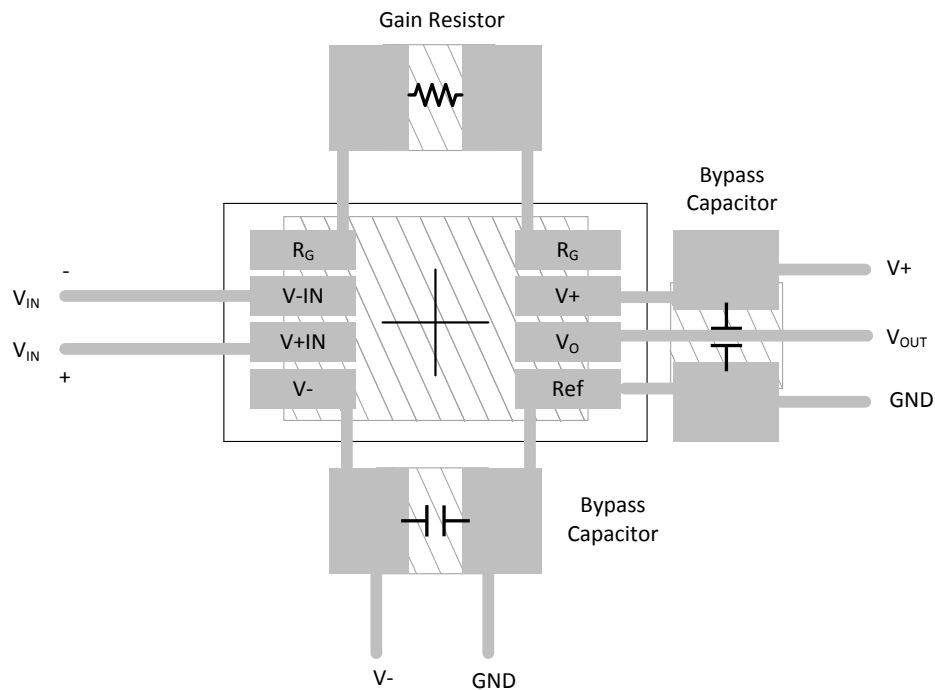

Figure 26. Layout for All Single INA126 Versions
- Place the external components as close to the device as possible. As illustrated in Figure 26, keeping R_G close to the pins minimizes parasitic capacitance.